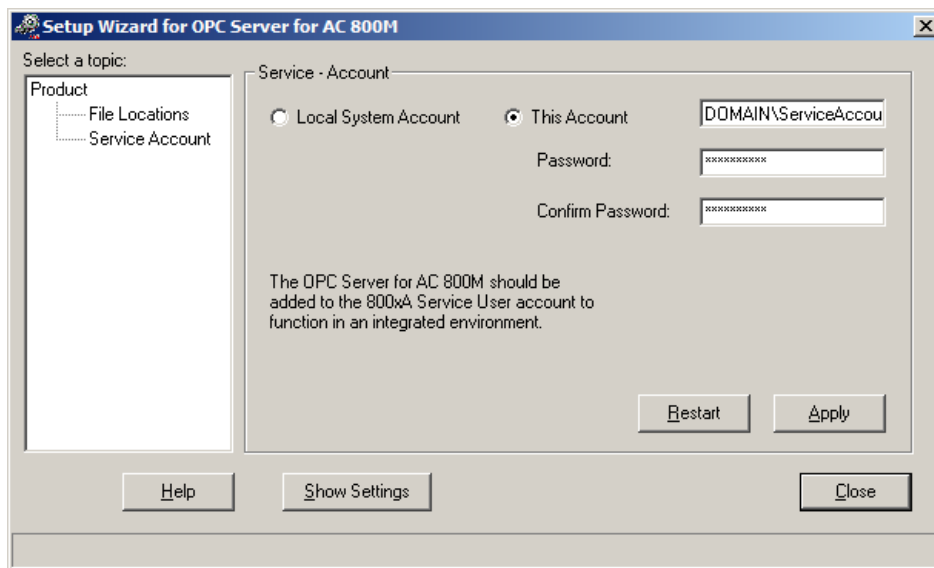

Figure 30. Service Account Setup
- a. **Setup Wizard:** The Setup Wizard is automatically started with the Service Account options preselected. Use the dialog box shown in Figure 30 to specify that the OPC server use the Domain\800xA Service User account (as specified in System software user settings dialog box when the 800xA Base System was installed). Click **Apply** and then **Close** when finished.